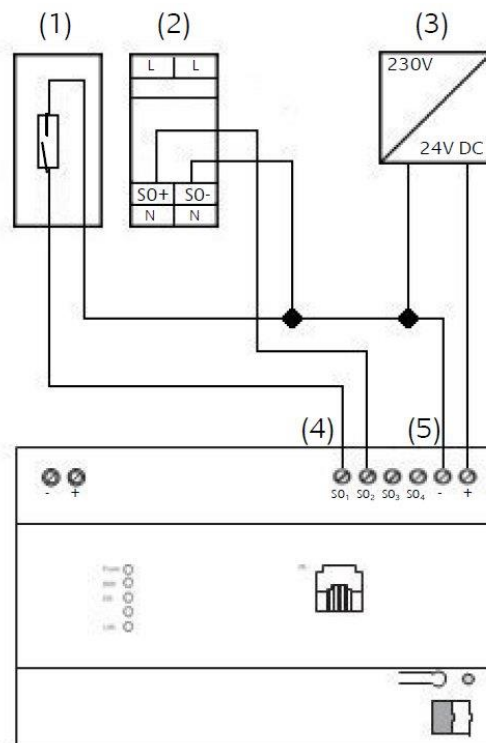

Figure 6: S0 pulse input connection plan
- Connect 24 V DC to the terminal for the S0 pulse input power supply (**Figure 6, 5**). No 230V!
- Connect S0 pulse input devices to the S0 pulse input terminals as follows (**Figure 6, 4**).